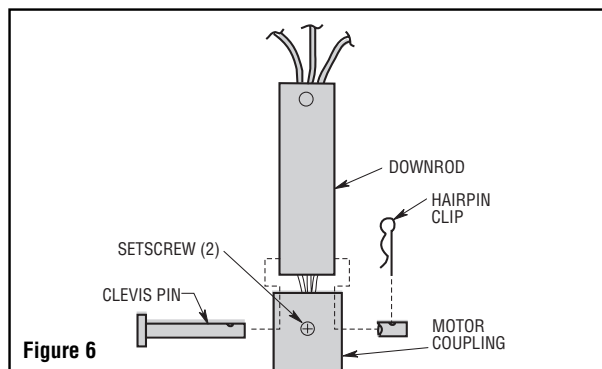

Figure 6
13. Loosen setscrew in motor coupler if necessary. Separate, untwist and unkink the three 80" motor leads. Route the motor lead wires through the downrod. Align the clevis pin holes in the downrod with the holes in the motor coupler. Install the clevis pin and secure with the hairpin clip (Figure 6). The clevis pin must go through the holes in the motor coupler and the holes in the downrod. Be sure to push the straight leg of the hairpin clip through the hole near the end of the clevis pin until the curved portion of the hairpin clip snaps around the clevis pin. The hairpin clip must be properly installed to prevent the clevis pin from working loose. Pull on the downrod to make sure the clevis pin is properly installed.
It is critical that the clevis pin in the motor coupler is properly installed and the setscrew securely tightened. Failure to verify that the pin and setscrew are properly installed (as shown in Figure 6) could result in the fan falling.